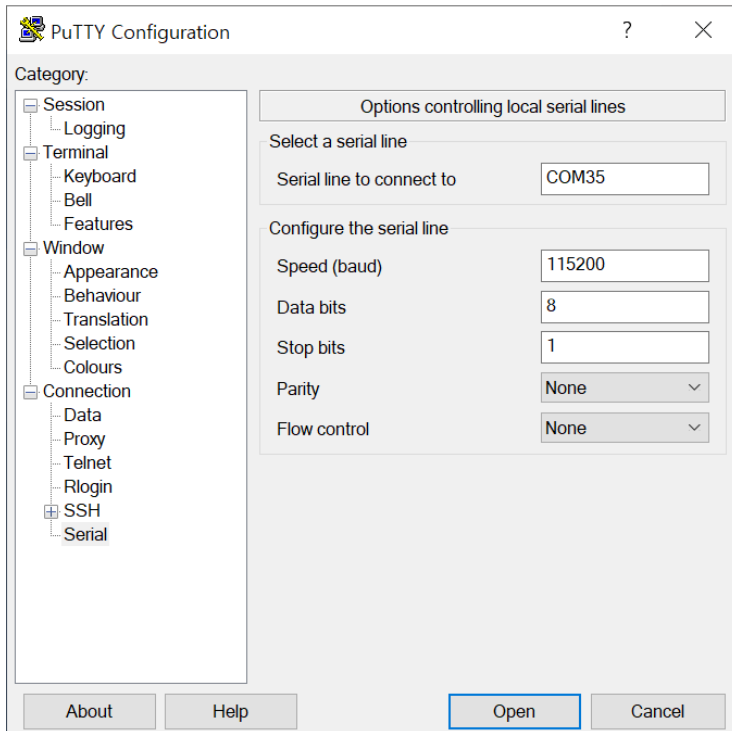

Figure 3.3 Putty Configuration Settings
5. On the Putty Configuration dialog, shown in Figure 3.3, verify that Serial line to connect to is set to COMX